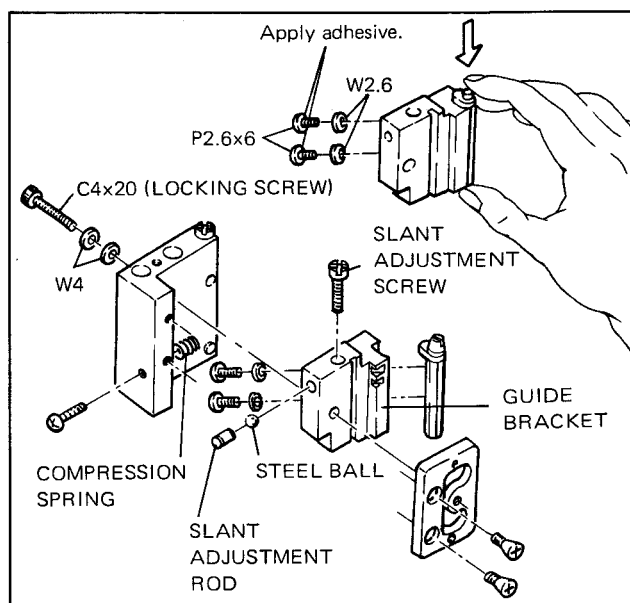

Fig. 6-26. Assembly of Entrance Slant Guide
9. Pushing the guide post in the direction shown by the arrow (see Fig. 6-26), fix it to the guide bracket with two P2.6×6 screws applied with adhesive (such as locking compound) and W2.6 washers.
11. When the guide bracket has been replaced, drive the slant adjustment screw into the guide bracket, and put the steel ball and slant adjustment rod into the hole of the guide bracket shown in Fig. 6-26.
15. Tighten the C4×20 locking screw firmly (see Fig. 6-26).